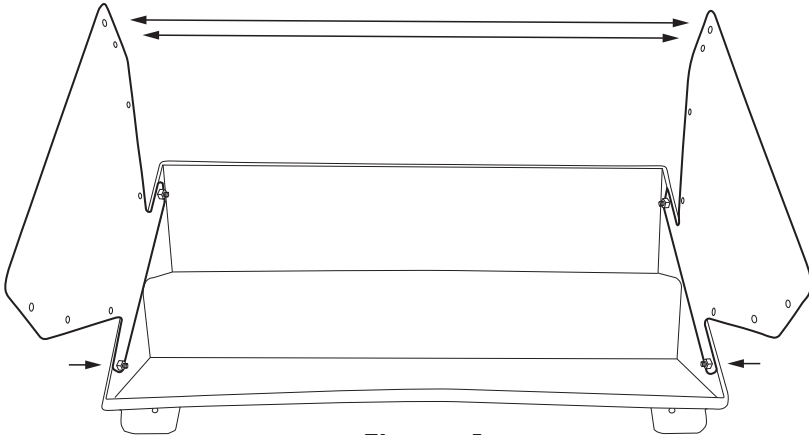

Figure 1
1. Install the **Feeder End Plates** (B&C) to inside surface of **Feeder Base** (A) using 4 **Bolts** (H1) and 4 **Nuts** (H2). Tighten to secure. (Figure 1)